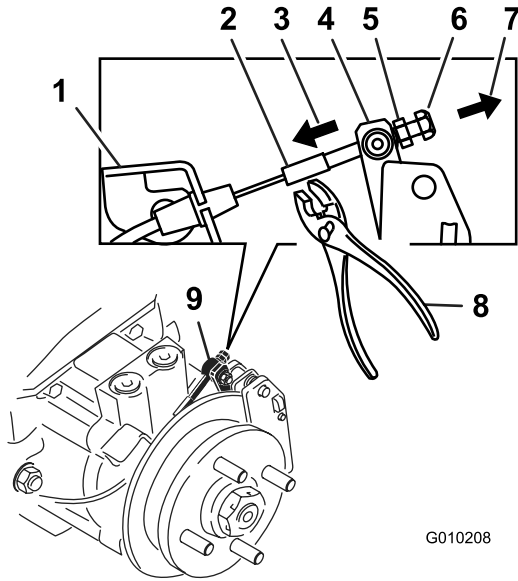

Figure 75
9. Using hands and fingers only, push the caliper lever arm to engage the brake pads on the rotor until the lever stops (Figure 75).
10. While holding the lever at the stopped position, use the other hand or fingers to pull the cable threaded end tight through the swivel. Spin the standard nut against the swivel (Figure 75).